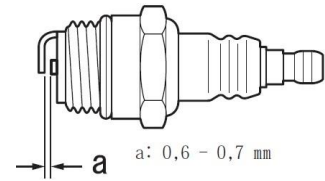

Fig. 20
ATTENTION! If the chain saw has difficulty starting it, check the spark plug (Fig. 20).
ATTENTION! If the engine does not start, the spark plug (Fig. 20) may be damp; in this case, remove it, dry it and then pull the starter cord several times before refitting the spark plug, to clean and ventilate the combustion chamber.
2. Flooded engine	2. Remove and dry the spark plug (Fig. 20) (see paragraph "SPARK PLUG")